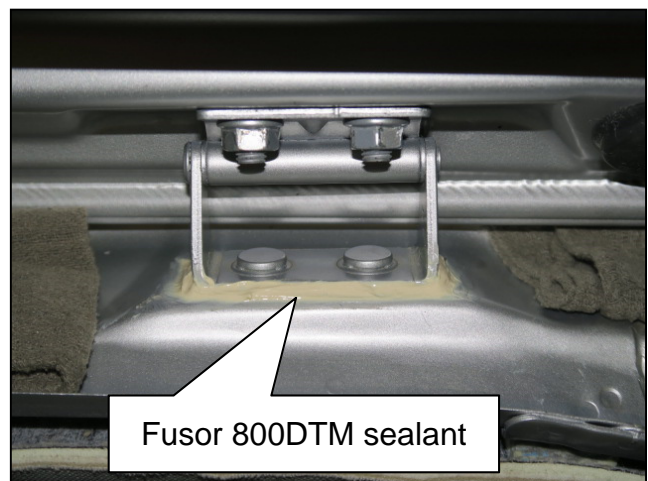

Figure 24
24. Apply a small bead of Fusor 800DTM sealant along the seam of the rear and both sides of the body side portion of the hinge, as shown in Figure 24.